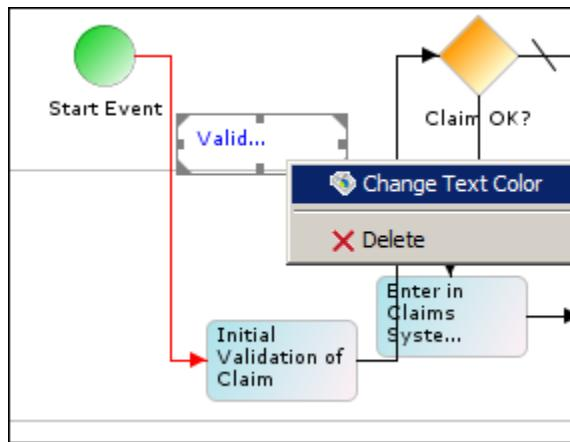

Figure 40: Change Text Color
4. Right-click the Label and select **Change Text Color** (see Figure 40).